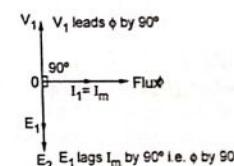

Fig. 5.6.2 Phasor diagram for ideal transformer on no load
- The phasor diagram for the ideal transformer on no load is shown in the Fig. 5.6.2.